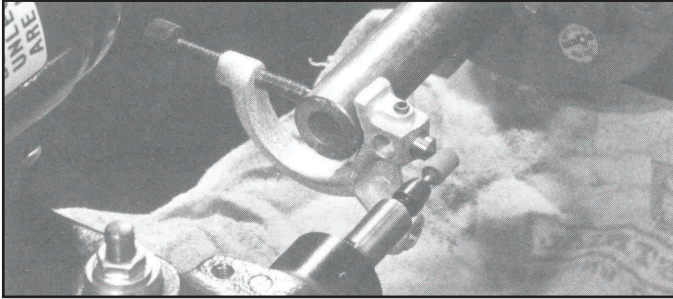

Figure 9
1. To dress a wheel for internal grinding, clamp the diamond dresser onto the workpiece or a piece of stock chucked in the lathe. The diamond will normally face away from the operator toward the back of the lathe as illustrated in Figure 9.